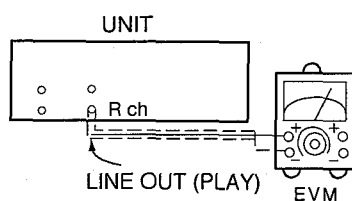

Fig. 1
1. Connect the measuring instrument as shown in Fig. 1.